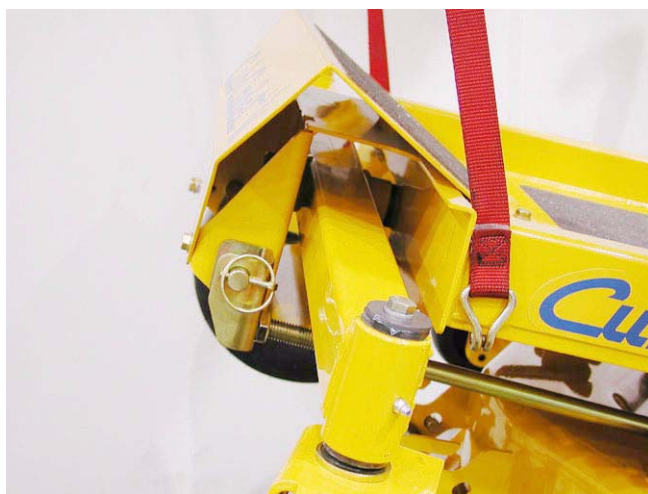

Figure 13.1
13.1. Lift and safely support the Z-Force by the frame in front of the deck. See Figure 13.1.